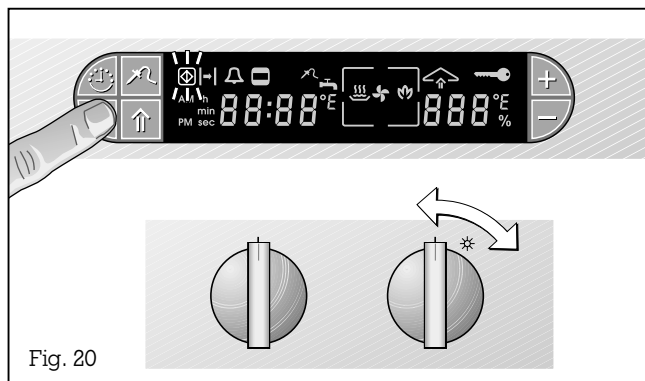

Fig. 20
- Turn the "Temperature" control knob to the 0 position (Fig. 20).